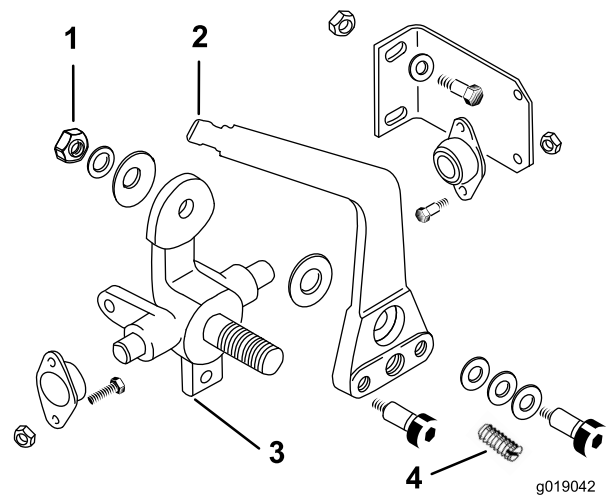

Figure 40
2. Connect a spring scale under the knob of the creep control lever. Turn the adjustment nut until the scale shows 13.61 to 22.68 kgf (30 to 50 lbf) to move the lever (Figure 40).